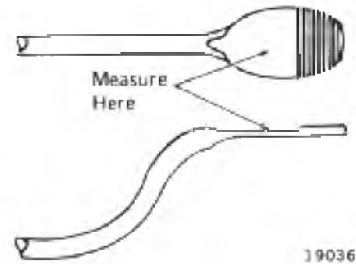

Fig. 5-36 - Lead Wire Measurement
- d. Bar the engine over one complete revolution to compress the lead wire. Remove the wire from the engine and measure the inboard portion of both compressed ends of the wire, Fig. 5-36.